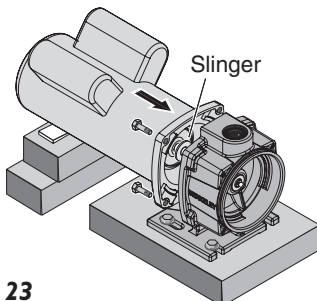

Figure 23
1. Bolt the bracket down to the foundation (see Figure 23).
2. Slide the motor shaft through the seal and bolt up the motor (see Figure 23). Make sure that the slinger is on the shaft between the bracket and the motor flange. Make sure that you don't chip the seal face with the shaft shoulders and that the shaft does not take the weight of the motor at any time.